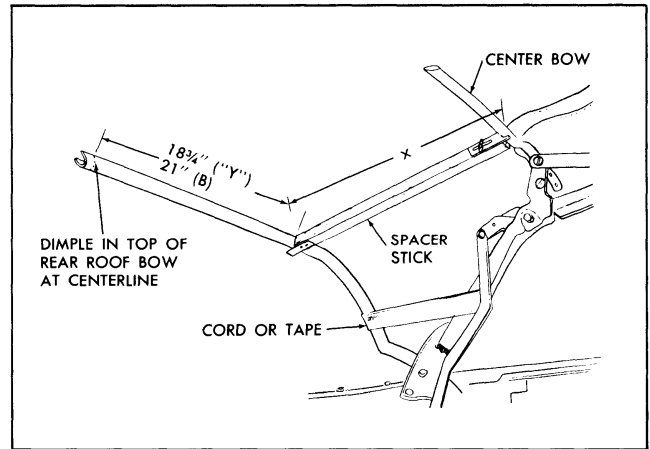

Fig. 22-33 Spacer Stick Installed
12. Lock top to windshield header. Install radius end of each adjustable spacer stick to fit against center roof bow. Install opposite end of spacer stick so that metal plate fits under rear roof bow (Fig. 22-33). Spacer stick should be installed along in-board edge of side stay pad or approximately 18-3/4" outboard from centerline dimple on "Y" body styles. While exerting rearward pressure on rear bow to draw side stay pads taut, extend spacer sticks until they fit snug between center bow and rear roof bow, then tighten wing nuts.
13. Temporarily tie or tape rear bow to rear side roof rails. Fig. 22-33. Detach nylon webbing, side stay pads and back curtain assembly from rear bow.
1. If new top is being installed but it was impossible to perform step 12 of removal procedure, preset spacer sticks to shortest length and install between center and rear roof bow (Fig. 22-33). Adjust sticks so that dimension "X" in Fig. 22-33 (measured along spacer stick from front upper rolled edge of rear roof bow to center of center bow) is $17\text{-}3/4" \pm 1/4"$ on "Y" styles. Tie or tape rear bow to rear side roof rails.